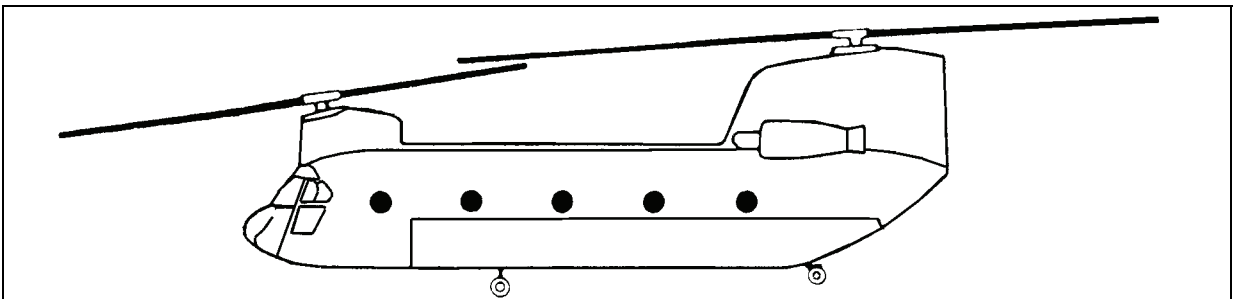

Figure 2-12. CH-47 Chinook
- H-47.** The H-47 Chinook (Figure 2-12) is a twin engine, tandem rotor helicopter manufactured by the Boeing Helicopter Company. The primary mission of the Chinook is to deliver personnel, supplies, and equipment. The flight engineer lies on the floor and guides the pilot by giving him directions to help him position the aircraft directly over the load.